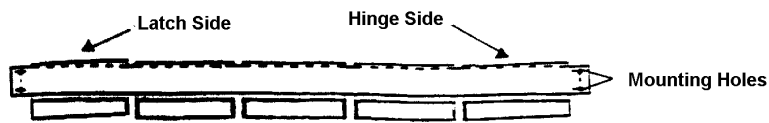

Figure 3
8. Locate the center tie bar from the kit. (See figures 3 and 4 on page 3.)